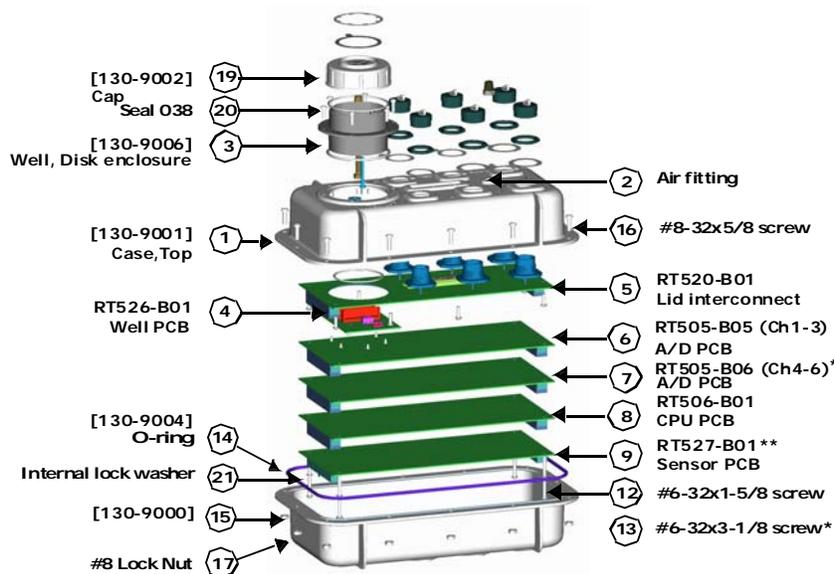

Figure 52 130-01 Boards Stack
Refer to Figure 52 on page 69
To disassemble a 130-01 refer to Figure 52 on page 69 and follow these steps:
Assemble the 130 DAS (Figure 52 on page 69) as follows:
1. Gently re-stack the boards in the order shown in Figure 52.